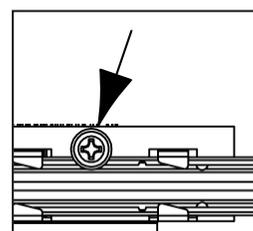

Fig. 7
Step 2. After the frame is set into place, tighten the hanger bars using the locking screws mounted onto the frame, (indicated by the arrow in **Fig. 7**).